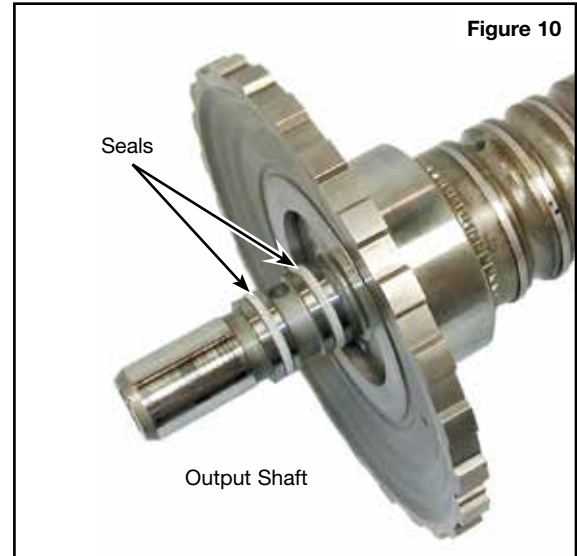

Figure 10
- Remove and discard OE output shaft sealing rings and replace with Sonnax seals as shown (Figure 10).